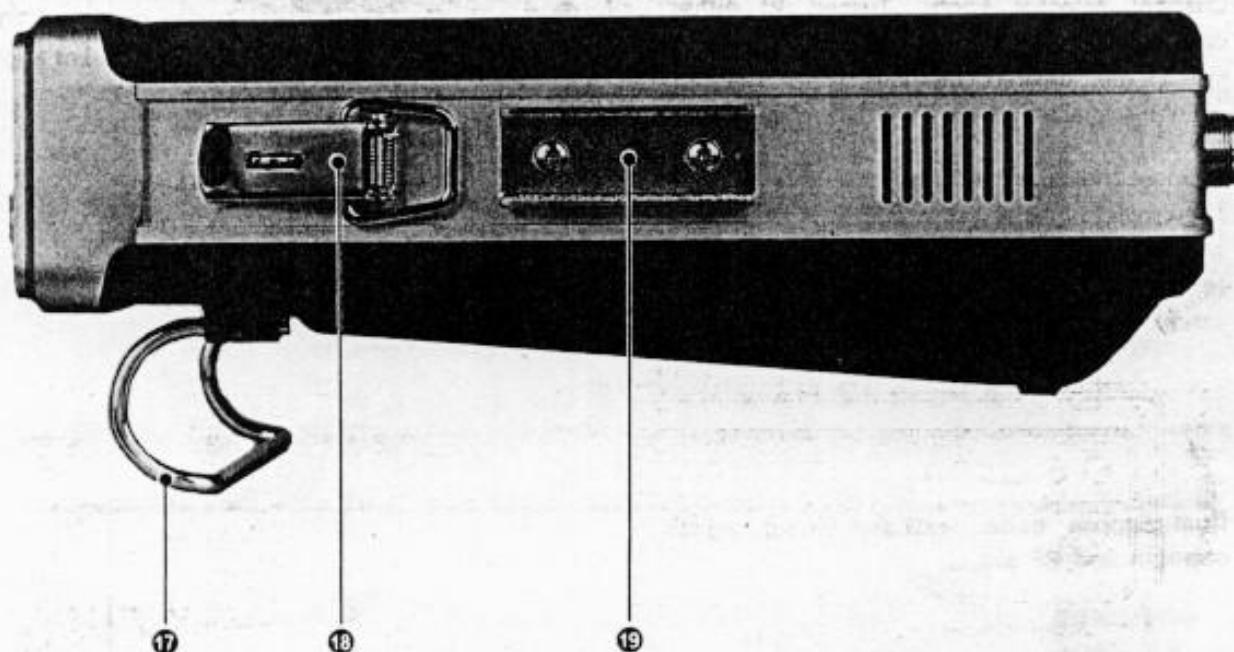

Fig. 3
⑮ DC Power Connector — Accepts normal DC operating voltage through the DC power cord supplied with the TR-8300.
⑯ EXT SP Connector — External AF output (8 ohm).
2.3 SIDE PANEL (Refer to Fig. 3)
⑰ Stand-off — Can be attached to your TR-8300 during operation to provide a convenient angle of viewing for the operator.
⑱ Snap Lock — Use to lock the transceiver body on the supplied mounting bracket.
⑲ Mounting Rail — Used to install the transceiver on the supplied mounting bracket.
If you operate the TR-8300 as a fixed station, attach the supplied Stand-off bracket 17 to it as illustrated in Fig. 3. The TR-8300 is designed so as to be used with a DC power supply having a current capacity of around 3.5A at the rated operating voltage of 13.8V.